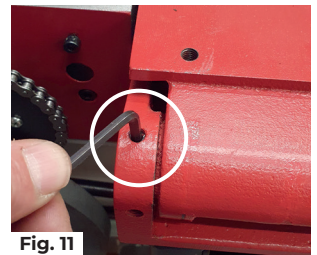

Fig. 11
- 2) Wind both lower grub screws clockwise (down) only ¼ of a turn maximum to lower the hinge pivot bar (Fig. 11).
- 2) Wind both upper grub screws anticlockwise (up) ¼ of a turn (Fig. 11)